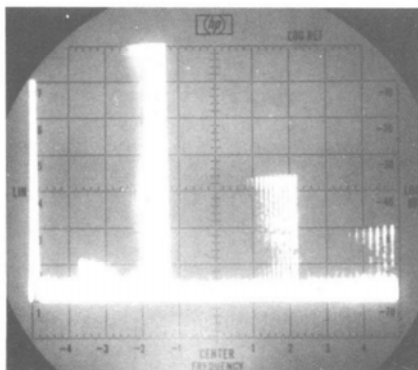

Figure 4-7. Typical Harmonic Distortion CRT Display 0 to 100 MHz
5. Observe the "Test Analyzer" display for harmonic and spurious signals. A typical display is shown in Figure 4-7. The Tracking Generator fundamental signal is shown between the -2 and -1 graticule lines. The second harmonic is shown between the +1 and +2 lines with the third harmonic shown between the +4 and +5 lines. The amplitude of the second harmonic is approximately 36 dB below the fundamental. The third harmonic is down approximately 50 dB. A spurious signal with an amplitude of approximately -58 dBm is shown between the -4 and -3 graticule lines.